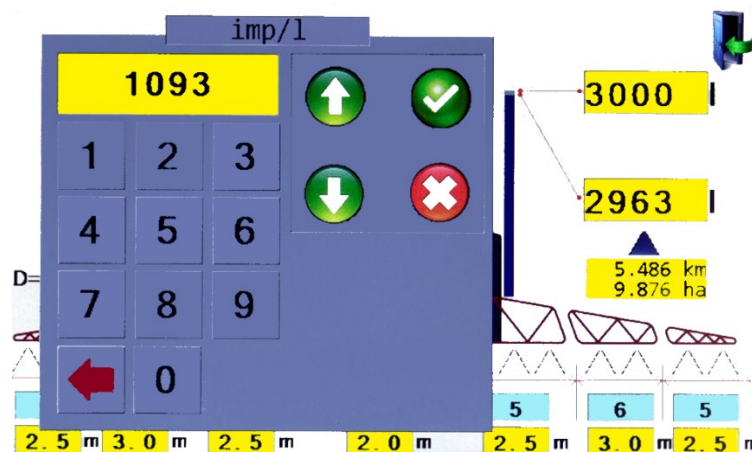

Figure 22
- Enter the new value in to FC input sub window (Figure 22).